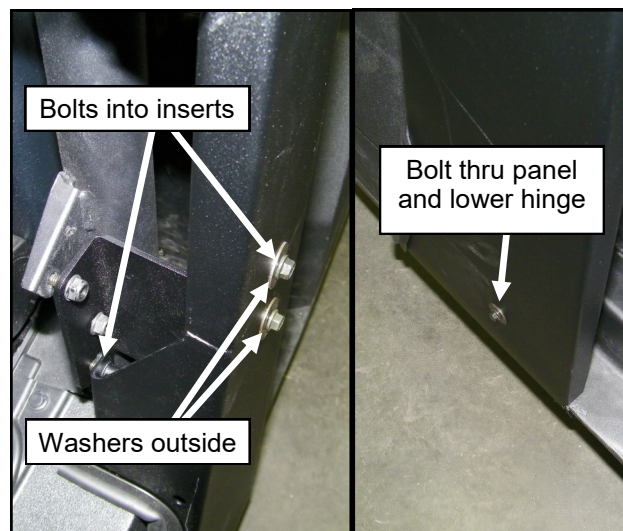

Fig. 5.2 B-pillar panel
- 5.2** Per figure 5.2, place the left B-pillar panel against the center vertical tube of the ROPS and align the holes in the panel to the threaded inserts of the B-pillar bracket. Insert (3) 1/4-20 bolts with washers on the outer bolts into the threaded inserts and leave loose. Place one 1/4-20 bolt with washer through the hole in the lower B-pillar and through the lower rear hinge and secure with a nut inside, leave loose. Repeat for the right side.